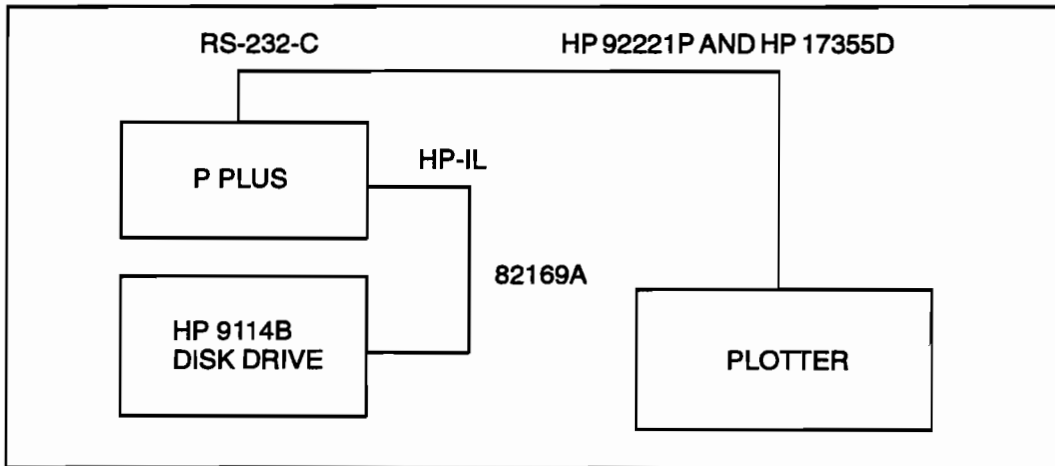

Figure 8-9. Disk File Setup
2. Connect the Portable PLUS, disk drive, and plotter per Figure 8-9. Power ON (I) the disk. Turn ON (I) the Portable PLUS and configure as follows:
5. Connect the Portable PLUS as shown in Figure 8-9.